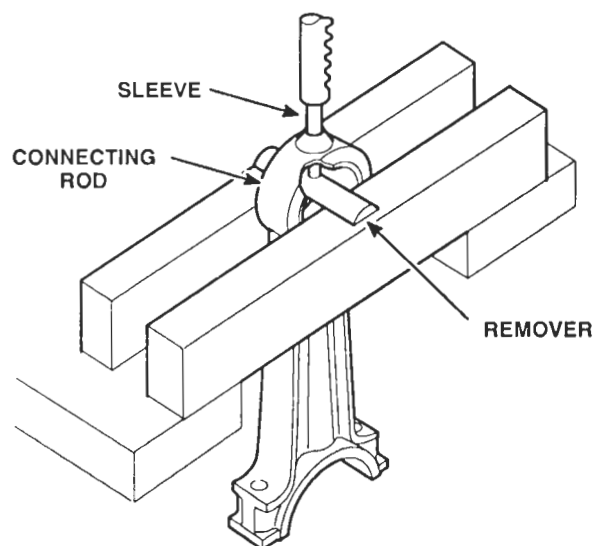

Figure 6. Spray Nozzle Removal
3. Support the connecting rod and tool in an arbor press (Figure 6.)